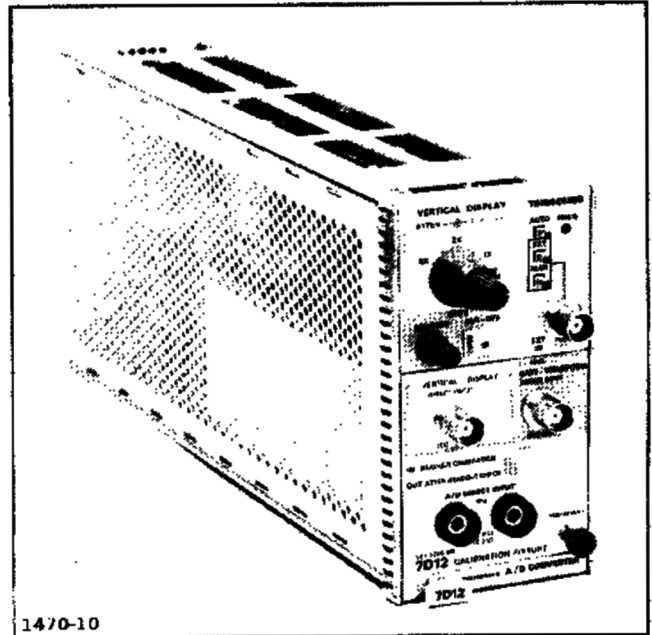

Fig. 4-1. 7D12 Calibration Fixture installed.
1. Insert the 7D12 calibration fixture into the 7D12 (see Fig. 4-1) and install them in a vertical plug-in compartment of the indicator oscilloscope.